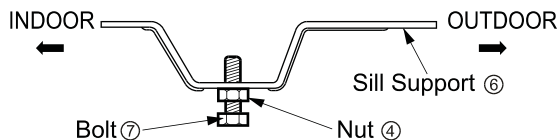

Fig. 3
3. Remove the White Styrofoam shipping block from the compressor. (Fig.3)
3. Loosely assemble the Sill Support® using the parts. (Fig. 3)